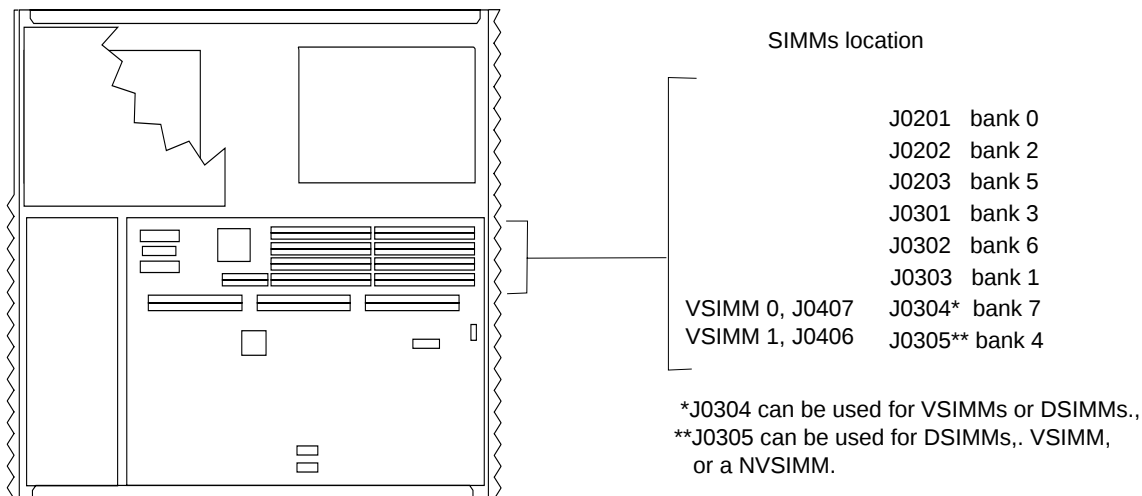

FIGURE 11-25 SIMM Slot Locations
Each NVSIMM contains 2 Mbytes of memory, a battery, and power controller circuitry to ensure memory is not lost when the system is shut down or halts because of abnormal conditions. The NVSIMM is a card with a round, non-replaceable battery mounted on one side. The NVSIMM plugs into a memory slot located on the system board. FIGURE 11-25 shows the battery side of the NVSIMM.
Refer to FIGURE 11-25 and proceed as follows:
1. **Locate the SIMM slots on the system board (FIGURE 11-25).**